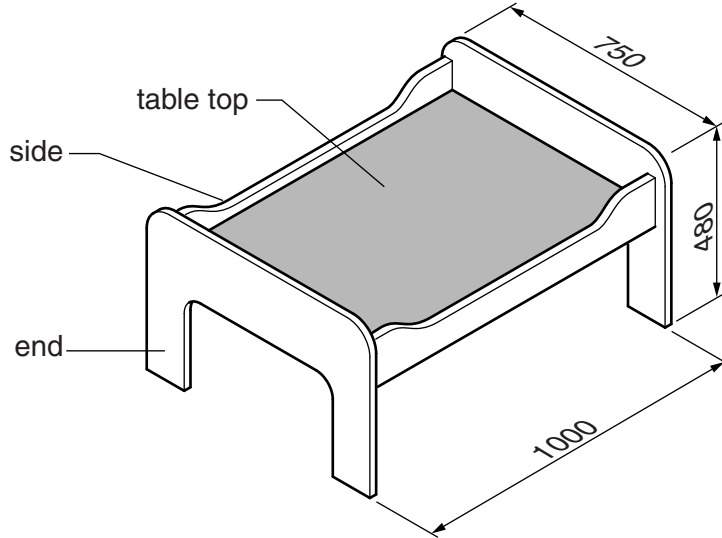

Fig. 9
- 11 Fig. 9 shows a play table for children.